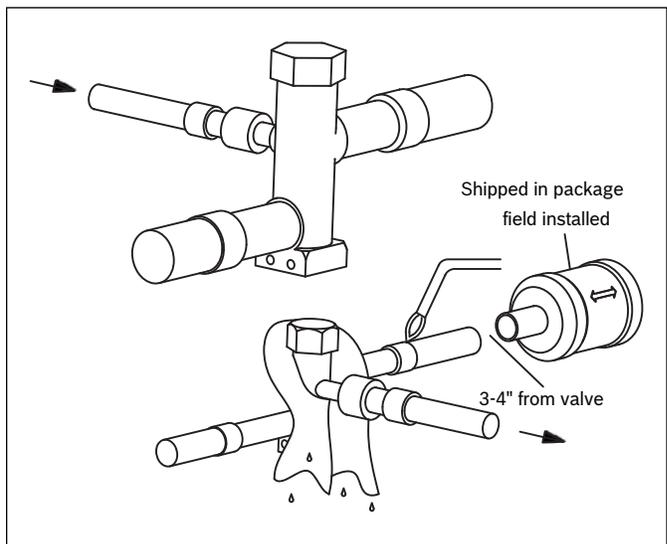

Figure 21
4. Wrap a wet rag around the valve body to avoid heat damage and continue the dry nitrogen purge (Figure 21).